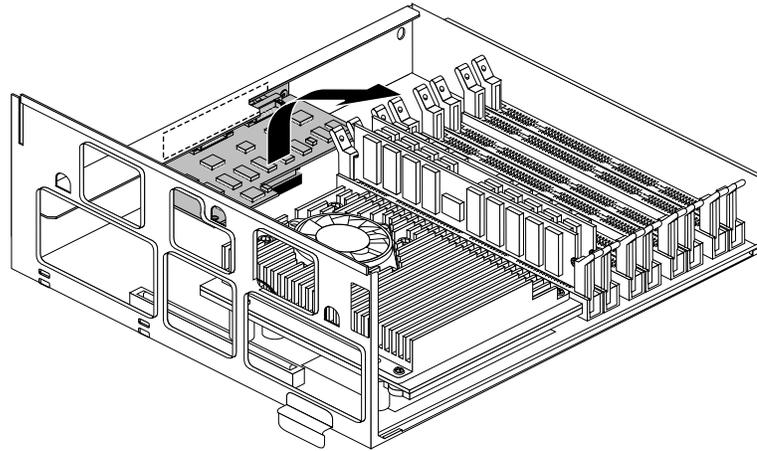

Figure 1-28 Removing the Flat Panel Monitor Adapter Board
5. Grasp the board on either side and gently rock it out (Figure 1-28). Do not exaggerate the rocking motion, or you might bend the pins.